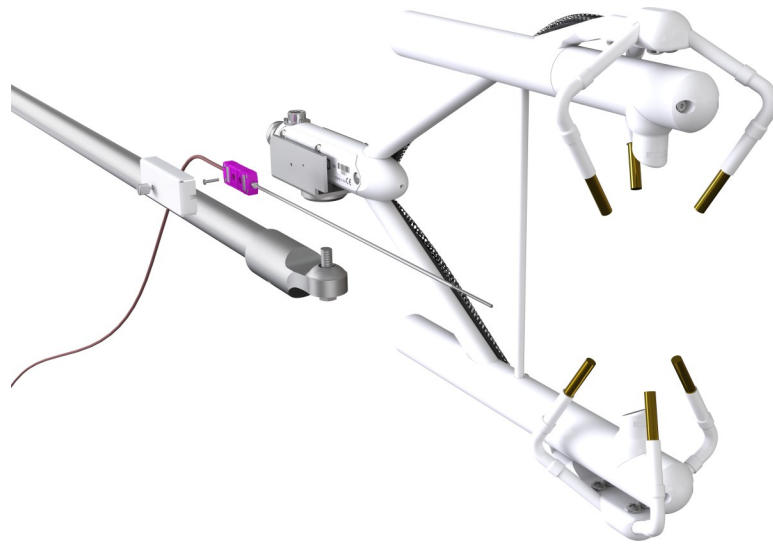
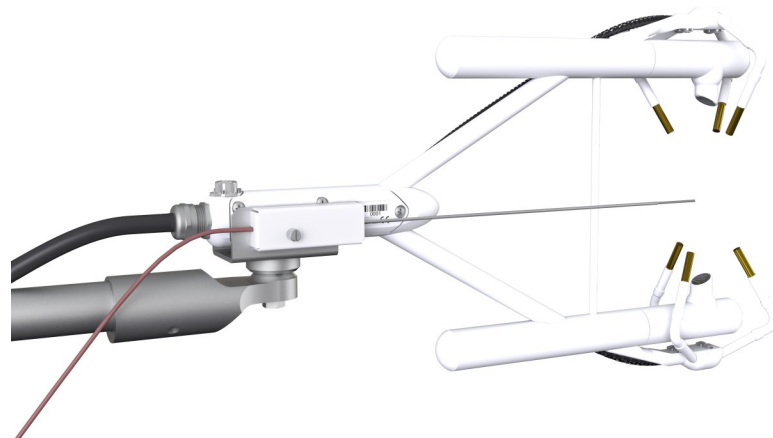

Figure 6-8. Fine-wire thermocouple positioning onto the IRGASON
Figure 6-9. Fine-wire thermocouple installed onto the IRGASON
4. Attach the white thermocouple cover to the IRGASON sensor head mounting kit for FWTC using the thumb screw so that both the fine-wire thermocouple and FWC-L connectors are covered. (See Figure 6-8 [p. 21] for positioning and Figure 6-9 [p. 21] to view the fine-wire thermocouple fully installed.)